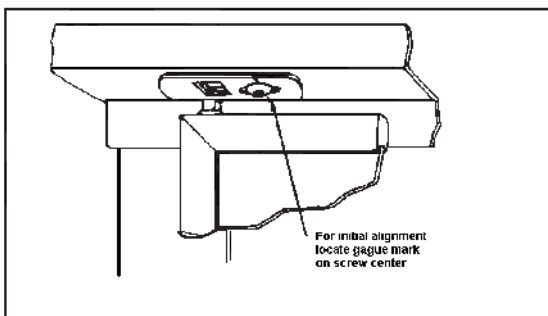

Figure 10
- Be sure the upper hinge mounting plate is aligned properly with the screw head centered on the gauge mark on the plate. Refer to Figure 10 .